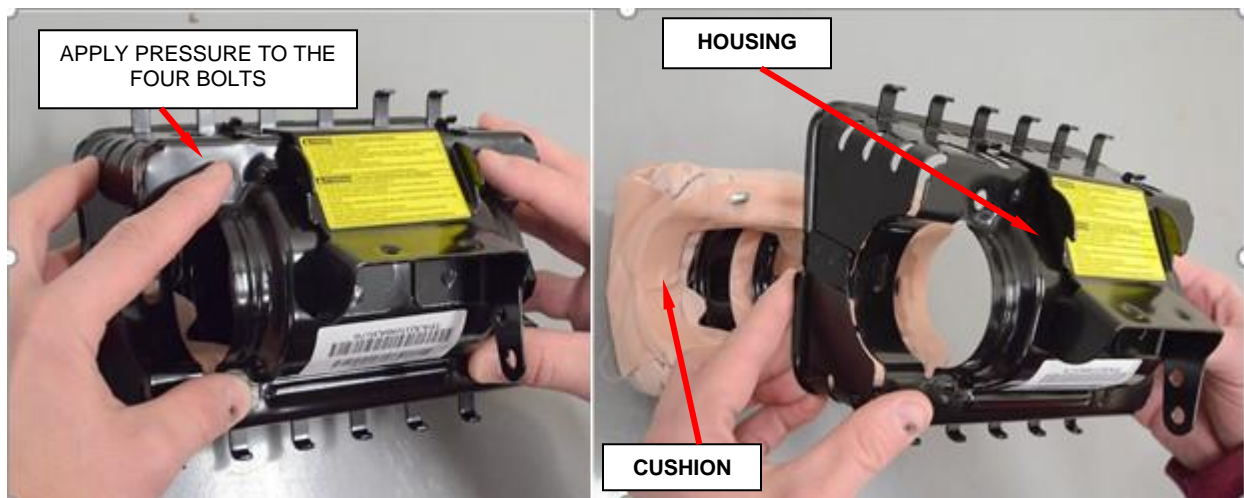

Figure 25 – Remove Airbag Cushion from Housing
h. Remove airbag cushion from housing by applying pressure to the bolts, set cushion aside (Figure 25).